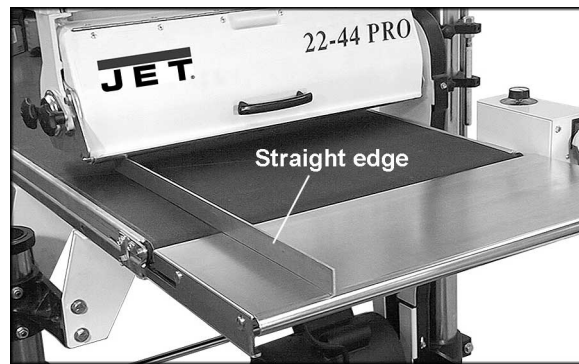

Figure 10
7. The table should be positioned even with or slightly below the conveyor belt surface. To check position, place a level or straight edge near the left side of the conveyor and extending out over the table, as shown in Figure 10. Raise the conveyor table until the drum holds the straight edge in place, and adjust the infeed table until it is even with or slightly below the conveyor belt surface.